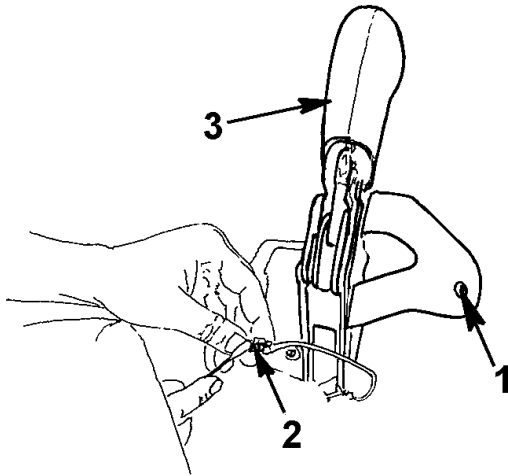

Figure 3 Harness Connector Disconnect
3. Disconnect the the parking brake light harness connector (Figure 3).